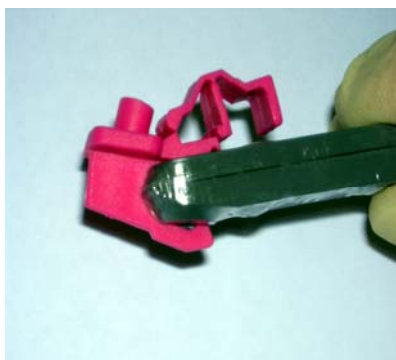

Fig 5
- Gently introduce the needle guide in the slitted probe and fix it (fig. 5 to 7)